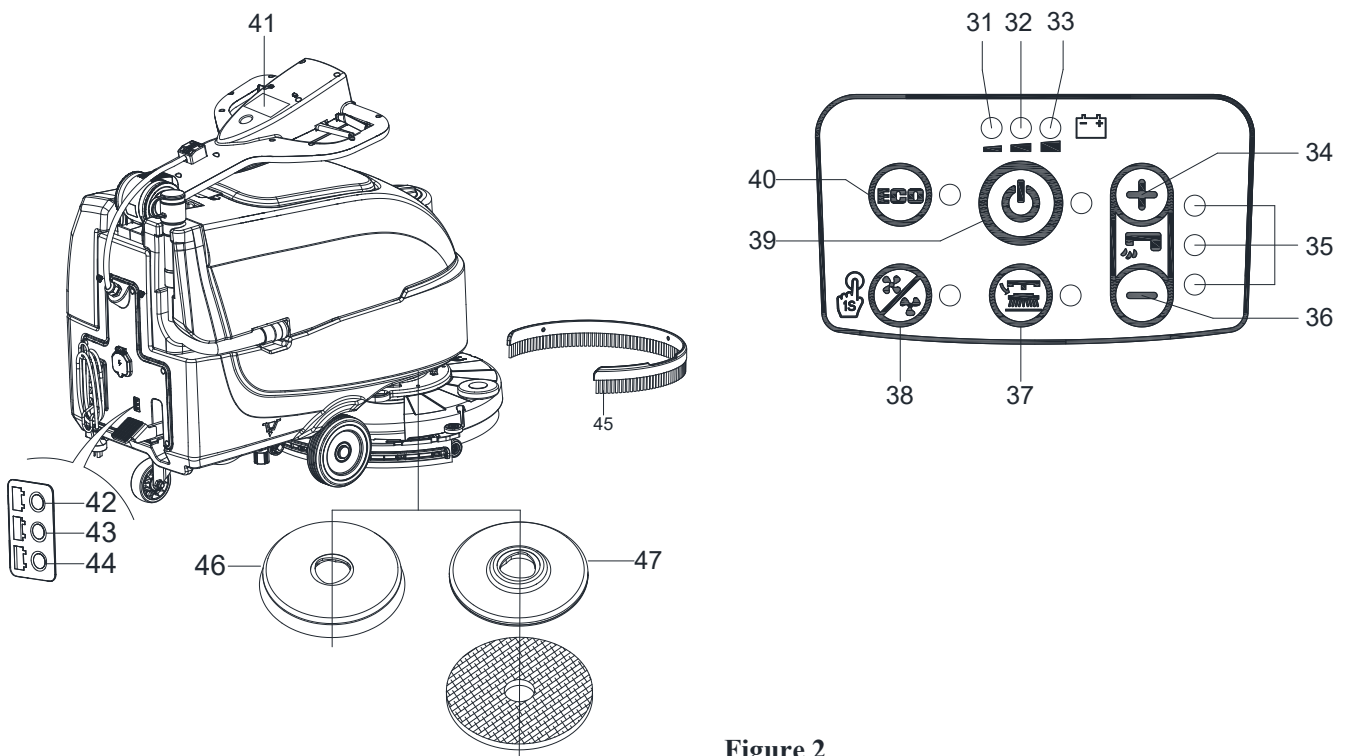

Figure 2
**CONTROL PANEL (as shown in Figure 2)**
**DISPLAY WINDOW OF CHARGER INDICATON LIGHT (as shown in Figure 2)**
2. Pressing the switch (39 Figure 2). If the green warning light (33) turns on, the batteries are fully charged. If the yellow (32) or red warning light (31) turns on, the batteries must be charged (see the procedure in Maintenance chapter).